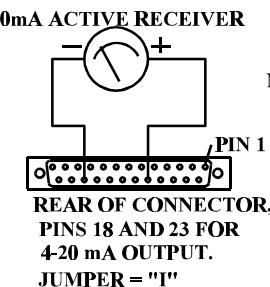

Figure 2
- 4-20 mA active receivers connect as shown in Figure 2. Note that an active receiver contains a voltage source to power the loop current. Note that the receiver must have an isolated input circuit. That is, it must not be connected to ground or to a voltage source referenced to ground. Be sure that SW101 is set to the "I" position before power is applied.